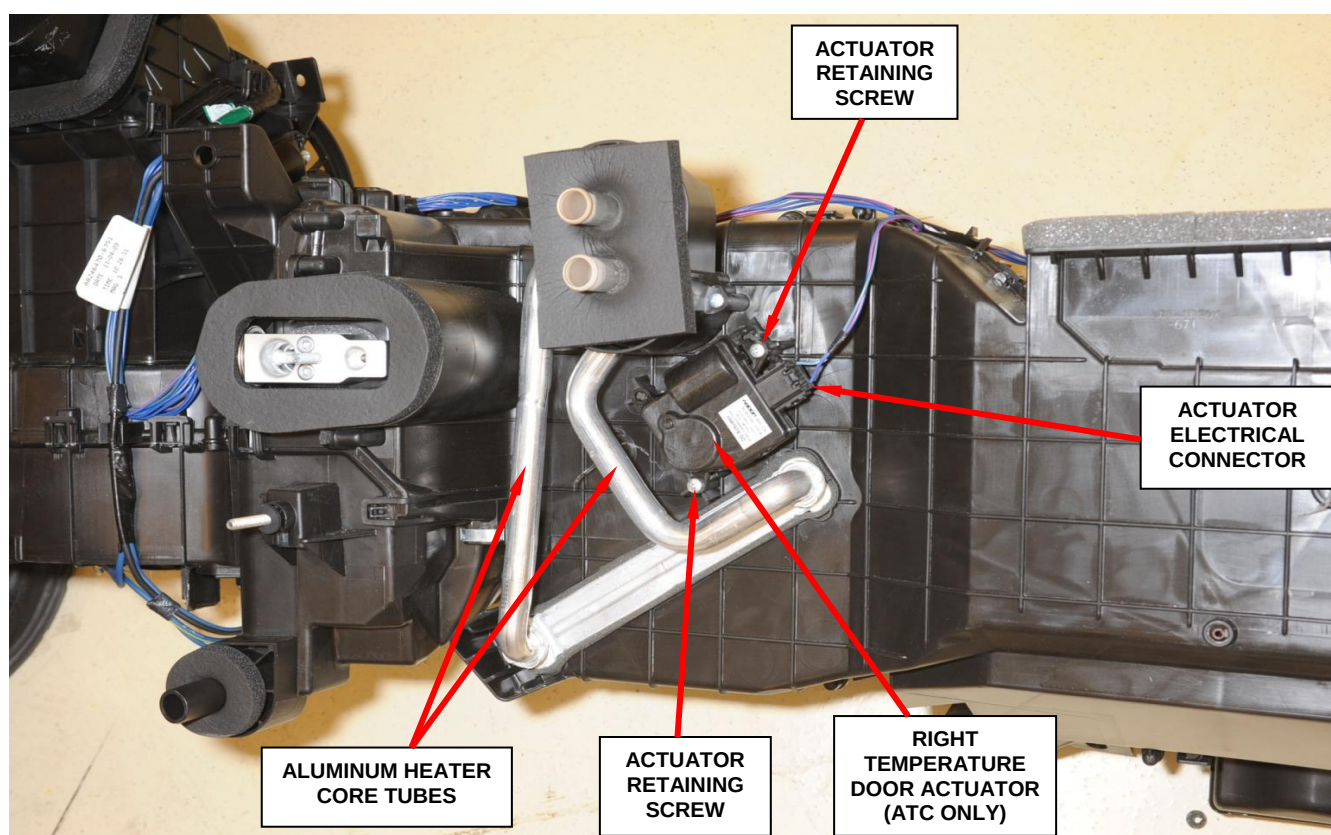

Figure 12 – HVAC Removed for Photographic Purposes Only
CAUTION: The dash silencer pad may have melted/bonded to the aluminum heater core tubes (Figure 12). Carefully separate the dash silencer pad from the aluminum heater tubes using a screwdriver.
- j. Disconnect the right temperature door actuator electrical connector (Figure 12).
- k. Remove the right temperature door actuator mounting screws (Figure 12).
- l. Remove and discard the original right temperature door actuator (Figure 12).
- m. Install the new right temperature door actuator into position and install the mounting screws (Figure 12). Tighten the screws securely.
- n. Connect the right temperature door actuator electrical connector (Figure 12).